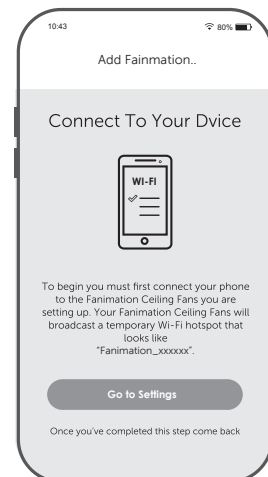

Figure 5
- ☐ 5. At this stage, your ceiling fan WiFi receiver should be installed and within range of your WiFi router. With the APP open, select "add device". (Figure 5)